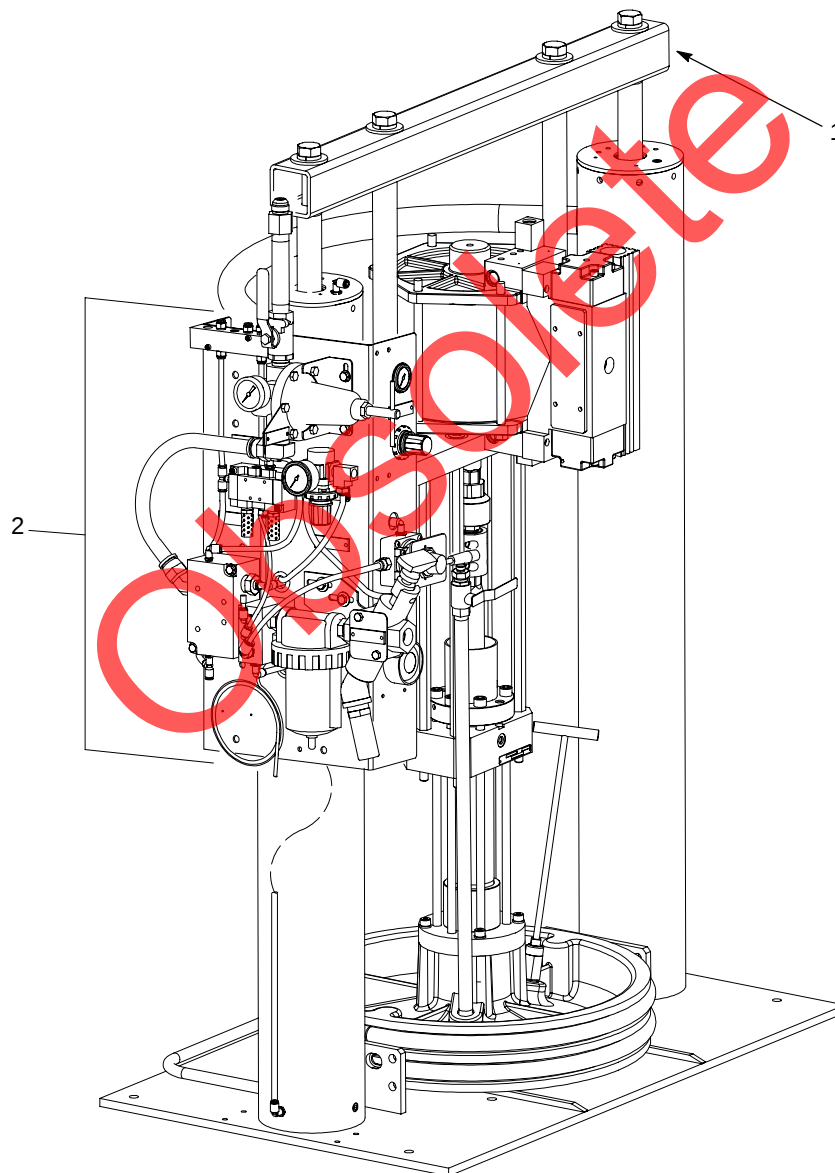

Figure 1 Control Module (Large Frame Rhino SD/XD Bulk Unloader Shown)
See Figure 1. The Control Module (1) provides the pneumatic operating functions for Rhino SD/XD bulk unloaders (2). It mounts to the side of small- and large-frame Rhino SD/XD bulk unloaders.